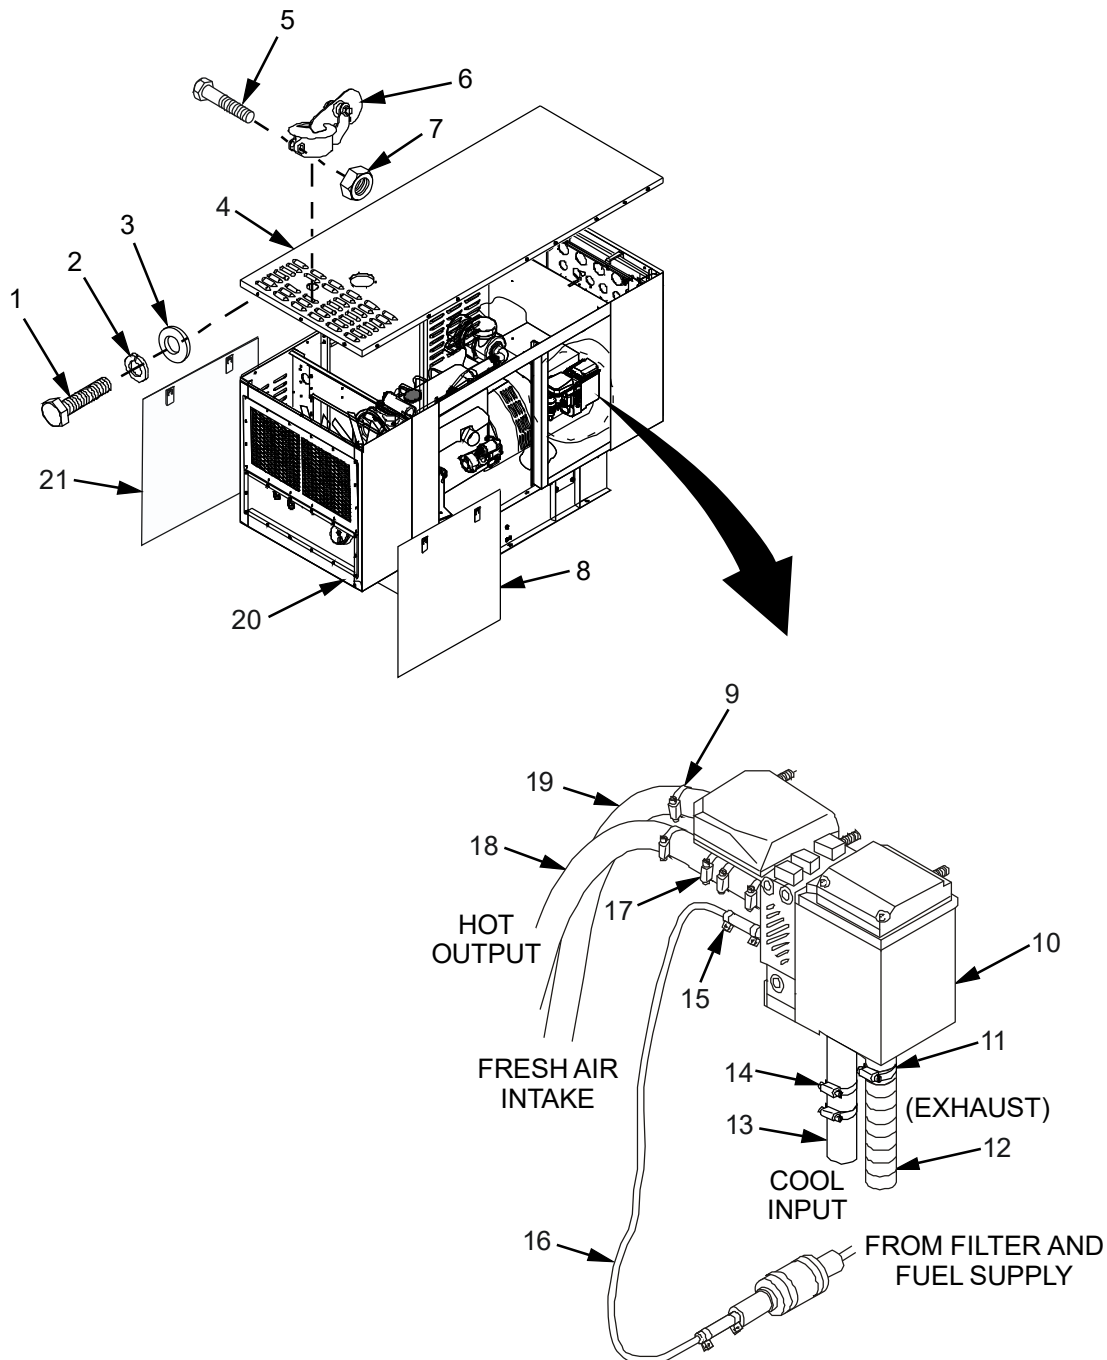

Figure 3. Engine Block Heater Hose - Replace.
7. Install top access panel (Figure 3, Item 4) onto Genset (Figure 3, Item 20) and secure using 20 bolts (Figure 3, Item 1), new lock washers (Figure 3, Item 2) and flat washers (Figure 3, Item 3).
8. Install exhaust pipe cap (Figure 3, Item 6) and tighten nut (Figure 3, Item 7) and bolt (Figure 3, Item 5) that secure exhaust pipe cap (Figure 3, Item 6).
9. Install front and rear access panels (Figure 3, Items 8 and 21) and install cargo restraints (not shown).
3. Loosen but do not remove nut (Figure 3, Item 7) and bolt (Figure 3, Item 5) that secures exhaust pipe cap (Figure 3, Item 6). Remove exhaust pipe cap (Figure 3, Item 6) and set aside.
4. Remove and retain 20 bolts (Figure 3, Item 1), lock washers (Figure 3, Item 2), and flat washers (Figure 3, Item 3) that secure top access panel (Figure 3, Item 4) to Genset (Figure 3, Item 20). Remove top access panel (Figure 3, Item 4) and set aside. Discard lock washers (Figure 3, Item 2).
5. Remove front and rear access panels (Figure 3, Items 8 and 21) of Genset and set aside.
7. Loosen exhaust hose clamp (Figure 3, Item 11) at base of engine block heater (Figure 3, Item 10).
8. Grasp exhaust hose (Figure 3, Item 12) and using a twisting motion pull down on hose.
1. Position exhaust hose (Figure 3, Item 12) so that it's aligned with the exhaust port of the engine block heater (Figure 3, Item 10).
3. Slide exhaust hose clamp (Figure 3, Item 11) into position.
6. Install top access panel (Figure 3, Item 4) onto Genset (Figure 3, Item 20) and secure using 20 bolts (Figure 3, Item 1), new lock washers (Figure 3, Item 2), and flat washers (Figure 3, Item 3).
7. Install exhaust pipe cap (Figure 3, Item 6) and tighten nut (Figure 3, Item 7) and bolt (Figure 3, Item 5) that secure exhaust pipe cap (Figure 3, Item 6).
8. Install front and rear access panels (Figure 3, Items 8 and 21).
7. Using either a flat tip screw driver or socket and ratchet, loosen the fuel hose clamp (Figure 3, Item 15) at the engine block heater (Figure 3, Item 10). Repeat for other end of fuel hose.
9. Pull the fuel hose (Figure 3, Item 16) away from the connection using a twisting motion until it comes free. Repeat for other end of fuel hose.
1. Place hose clamps (Figure 3, Item 15) onto replacement fuel hose (Figure 3, Item 16) loosely and slide to center of hose.
3. Using a twisting motion slide the fuel hose (Figure 3, Item 16) onto fuel port of engine block heater (Figure 3, Item 10). Ensure hose is slid back far enough.
4. Slide fuel hose clamp (Figure 3, Item 15) into position. Repeat for other end of fuel hose.
6. Tighten down hose clamp (Figure 3, Item 15) using flat tip screwdriver or socket and ratchet, until hose clamp begins to press into hose. Repeat for other end of fuel hose.
9. Install top access panel (Figure 3, Item 4) onto Genset (Figure 3, Item 20) and secure using 20 bolts (Figure 3, Item 1), new lock washers (Figure 3, Item 2), and flat washers (Figure 3, Item 3).
10. Install exhaust pipe cap (Figure 3, Item 6) and tighten nut (Figure 3, Item 7) and bolt (Figure 3, Item 5) that secure exhaust pipe cap (Figure 3, Item 6).
11. Install front and rear access panels (Figure 3, Items 8 and 21) and install cargo restraints (not shown).
7. Identify coolant hose to be replaced (Figure 3, Item 13 or 19).
10. Using either a flat tip screw driver or a socket and ratchet, loosen the coolant hose clamp (Figure 3, Item 9 or 14) on the engine block heater (Figure 3, Item 10). Repeat for other end of coolant hose.
12. Pull the coolant hose (Figure 3, Item 13 or 18) away from the connection using a twisting motion until it comes free. Repeat for other end of coolant hose.
13. Remove the hose clamps (Figure 3, Item 14 or 17) if they are to be reused and discard hose.
1. Place hose clamps (Figure 3, Items 14 & 17) onto replacement hose loosely and slide to center of hose.
3. Using a twisting motion slide the coolant hose (Figure 3, Item 13 or 18) onto the coolant ports of the engine block heater (Figure 3, Item 10). Ensure hose is slid back far enough.
4. Slide coolant hose clamp (Figure 3, Item 9 or 14) down into position. Repeat for other end of hose.
6. Tighten down hose clamps (Figure 3, Item 17 or 19) using flat tip screwdriver or socket and ratchet, until hose clamp begins to press into hose. Repeat for other end of coolant hose.